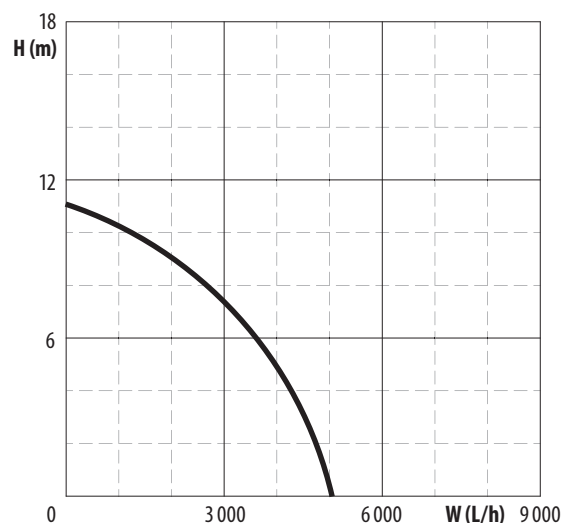

Fig. 1
- ¹⁾ The flow rate graph (fig. 1) shows the dependence of the flow rate on the delivery height. The lower the delivery height, the greater the flow rate. The specified max. flow rate is determined under ideal conditions, where factors that reduce it are eliminated in order for the flow rate to be comparable with other pump models. The flow rate / delivery height, likewise, depends on the length of the delivery hose, where 10 metres of the delivery hose in horizontal position is equivalent to approx. 1 metre of delivery height. The flow rate is reduced by hose connection fittings or hose ends (adapters) because they have a smaller internal diameter than the hose.